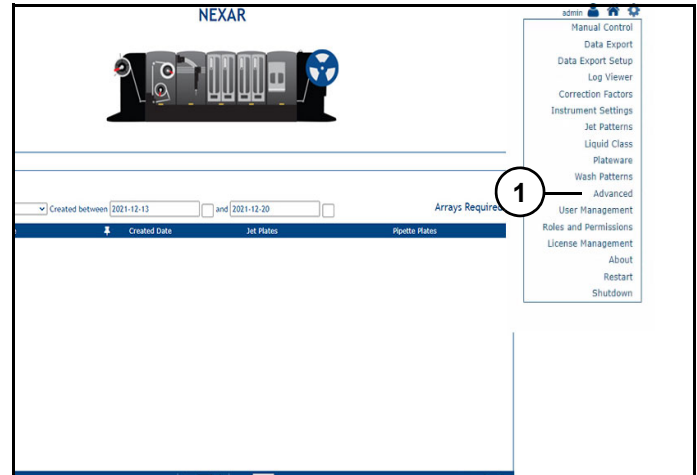

Figure 29
Advanced (1) (Figure 29): Opens advanced options page.